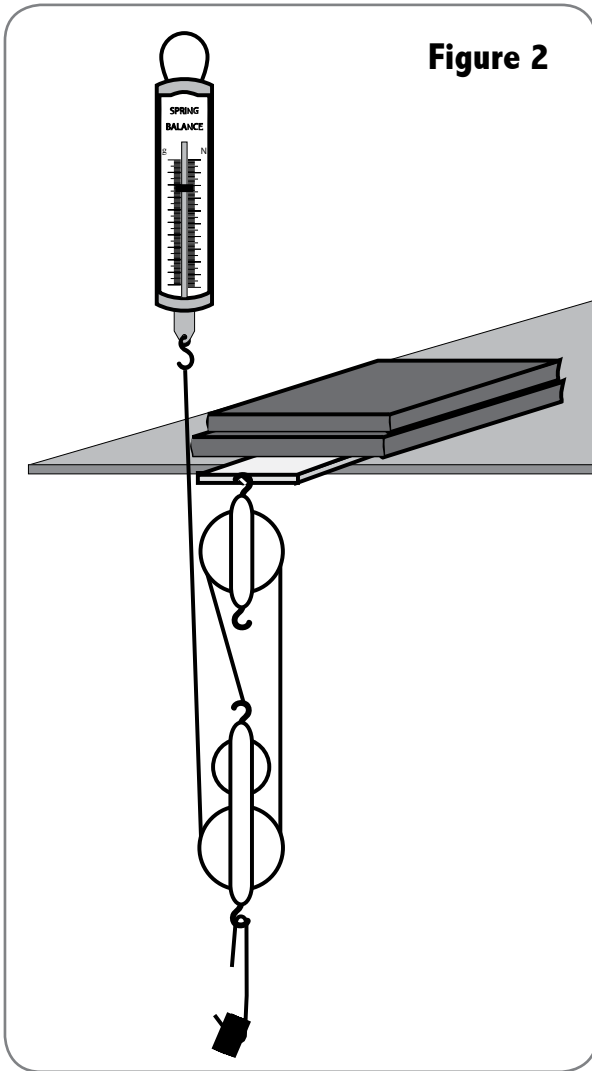

Figure 2
4. Set up the pulley system as shown in Figure 2. This will be Setup 2. Repeat steps